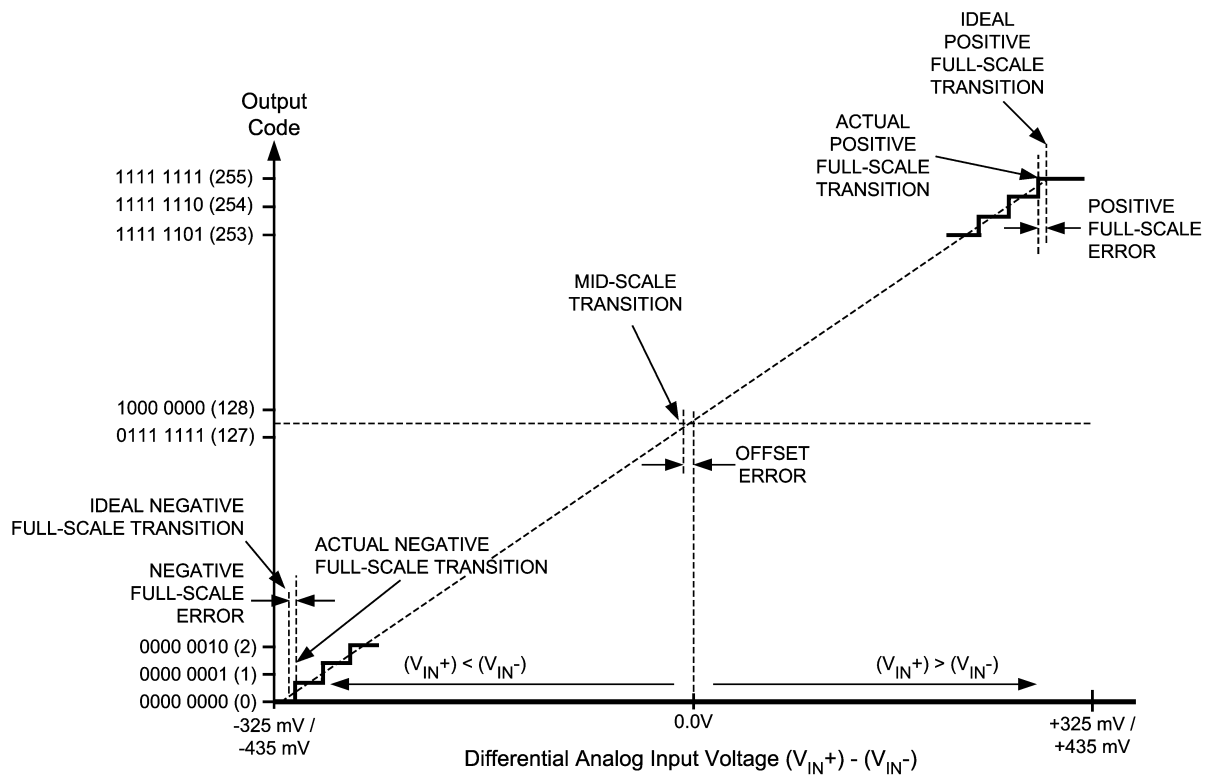

FIGURE 2. Input / Output Transfer Characteristic
**Note 9:** Calculation of Full-Scale Error for this device assumes that the actual reference voltage is exactly its nominal value. Full-Scale Error for this device, therefore, is a combination of Full-Scale Error and Reference Voltage Error. See Figure 2. For relationship between Gain Error and Full-Scale Error, see Specification Definitions for Gain Error.